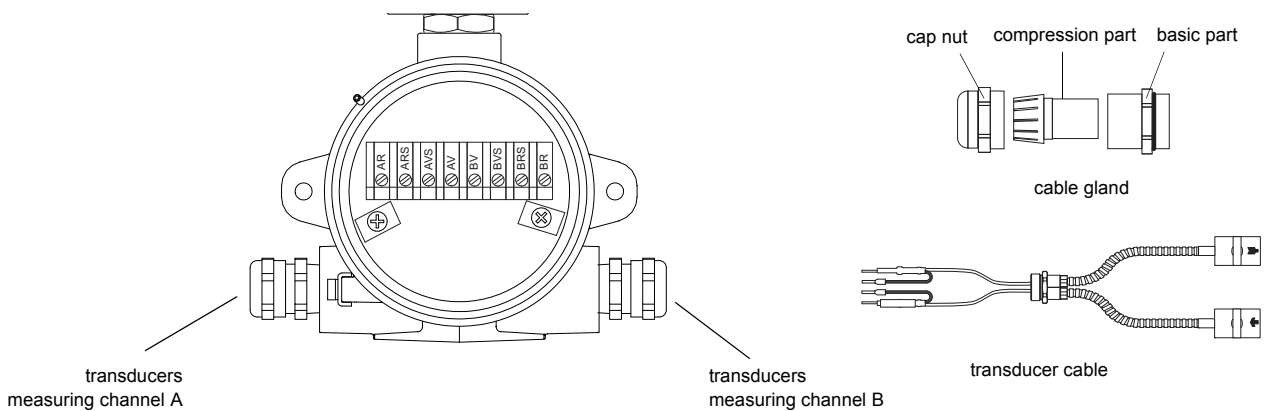

Fig. 7.5: Connection of the transducer cable
- Remove the blind plug for the connection of the transducer cable (see Fig. 7.5).
- Connect the transducer cable to the terminals of the transmitter (Fig. 7.5, Tab. 7.1 and Tab. 7.2).
- Connect the transducer cable to the terminals of the transmitter (Fig. 7.5 and Tab. 7.1).